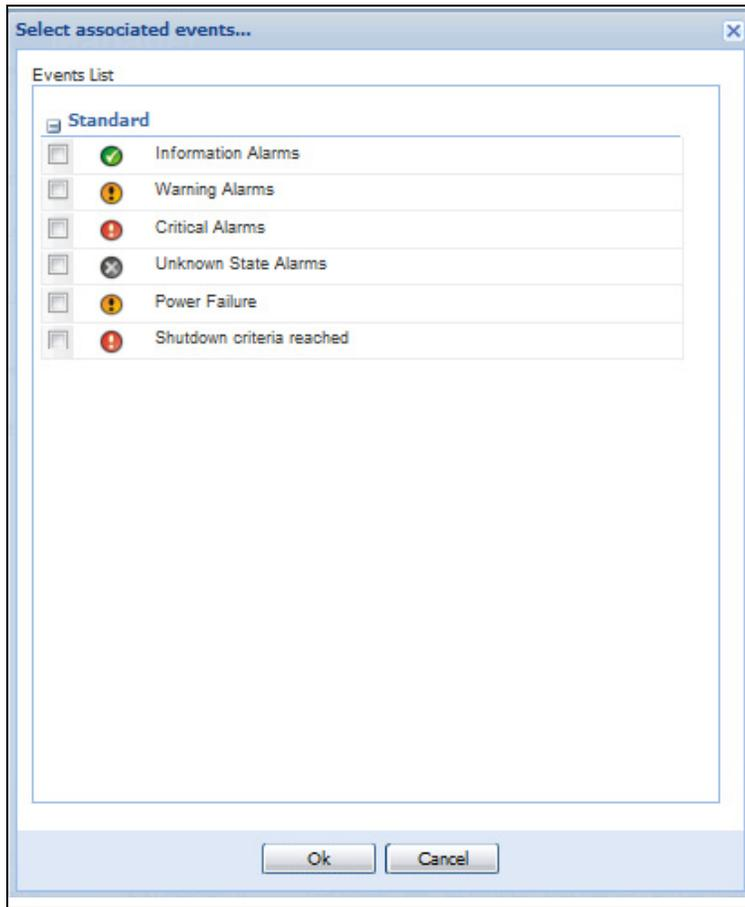

Figure 24. Associated Events
- **List of Events:** Establishes where this action will be executed. Events can be selected by pressing the pencil icon button next to the field and using the Associated Events dialog (see Figure 24).